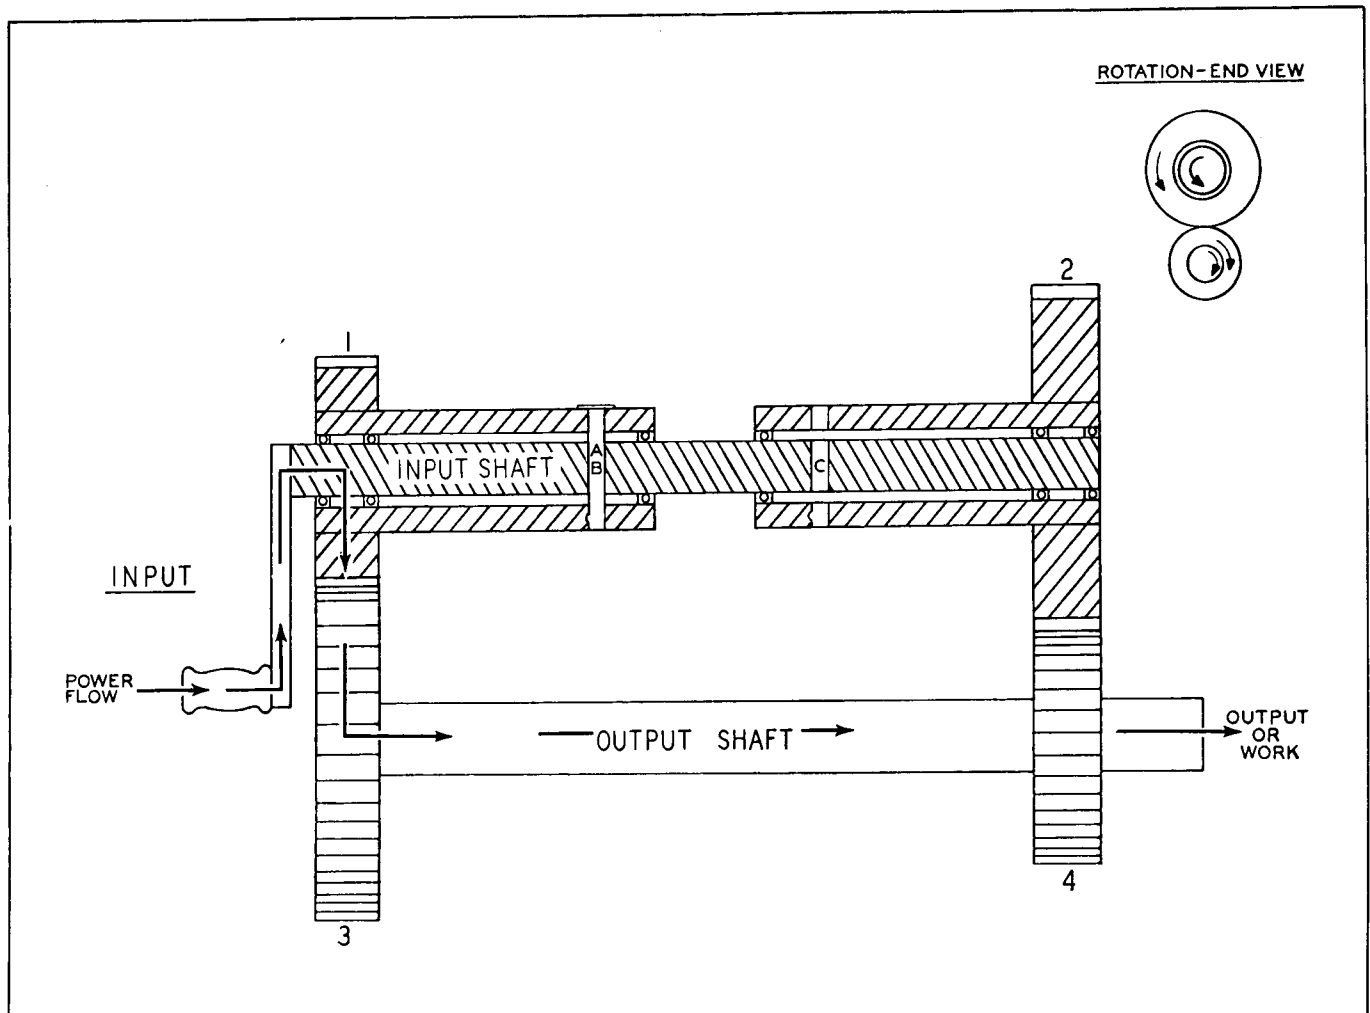

Figure 1-15
If we insert the pin (A) in the hole (B) in the sleeve of the small gear (1) and through the input shaft we now have a means of fastening the gear to the input shaft. Now when the crank is turned, the small gear (1) rotates with the input shaft and drives the large gear (3) and its output shaft. The driving gear (1) is smaller than the driven gear (3) therefore the transmission is in low range. The output shaft will rotate slower than the input shaft (Fig. 1-15).